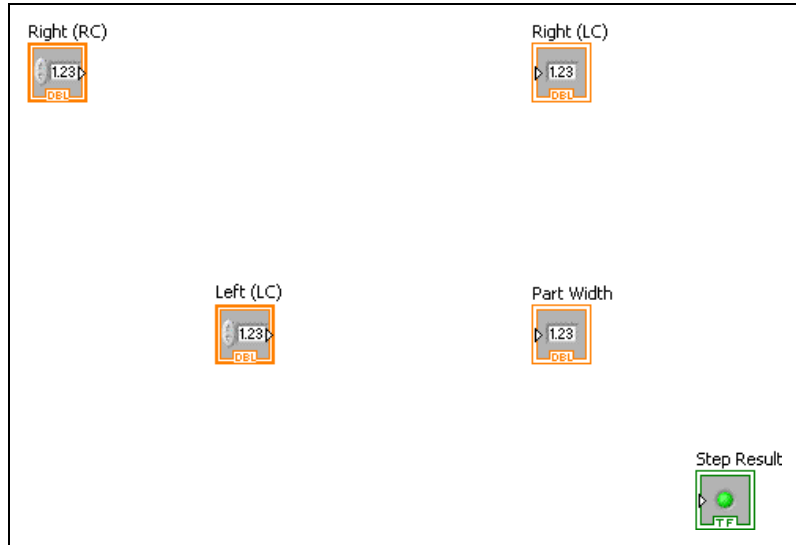

Figure 5-8. Arranging Diagram Elements
- Triple-click the label of **Find Right Edge 1.XPosition (Calibrated)** to highlight the entire label, and type `Right (RC)`.
- Triple-click the label of **Find Left Edge 1.XPosition (Calibrated)** to highlight the entire label, and type `Left (LC)`.
14. To simplify the process of connecting the diagram elements later in this chapter, arrange the elements into the configuration shown in Figure 5-8 by dragging them to their new positions.